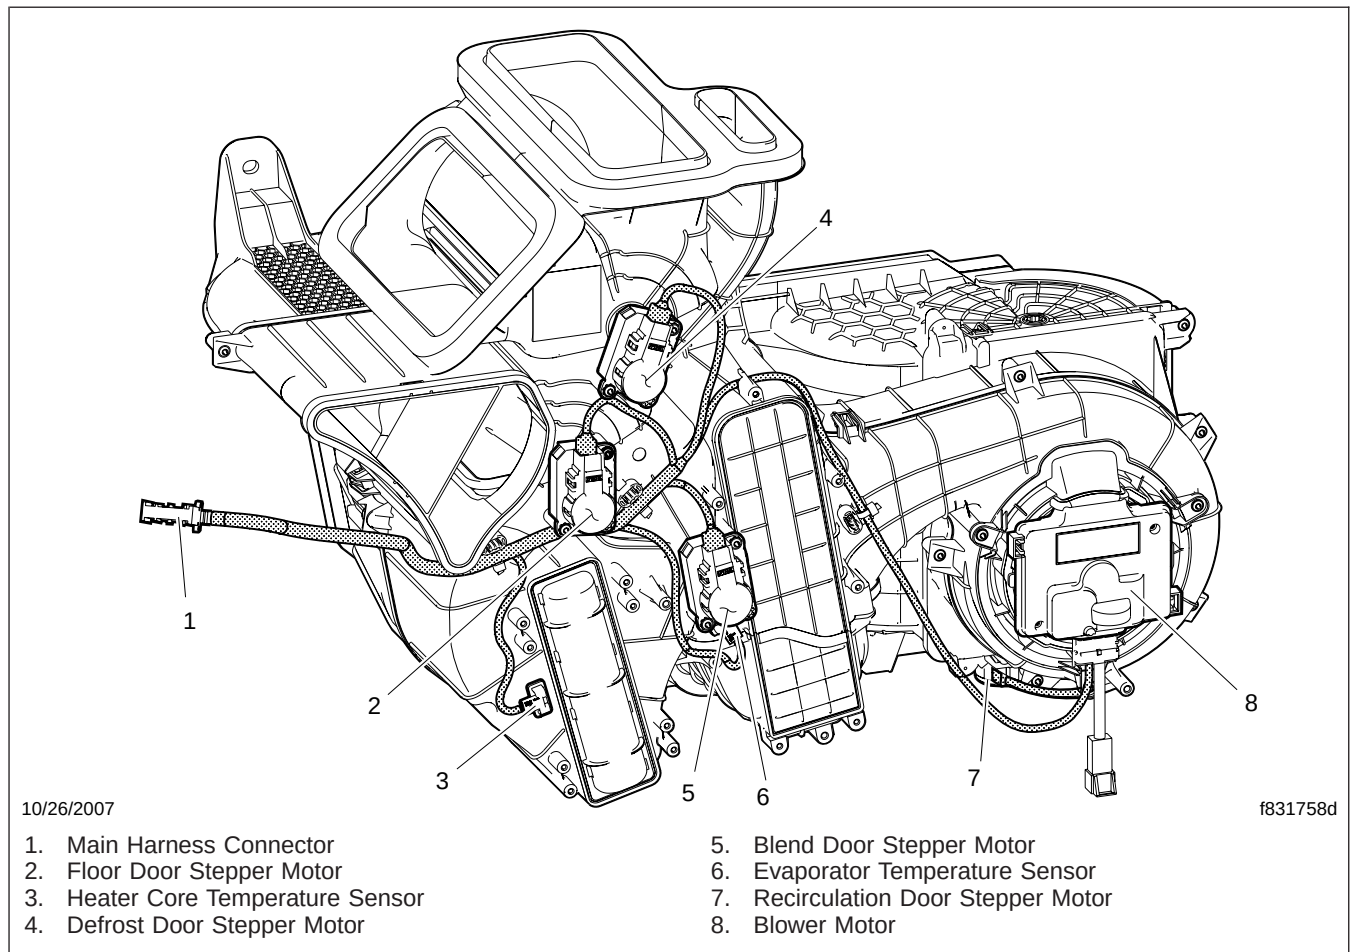

Fig. 8, HVAC Harness Installation
17. Disconnect all of the connectors, and remove the harness. See Fig. 8.